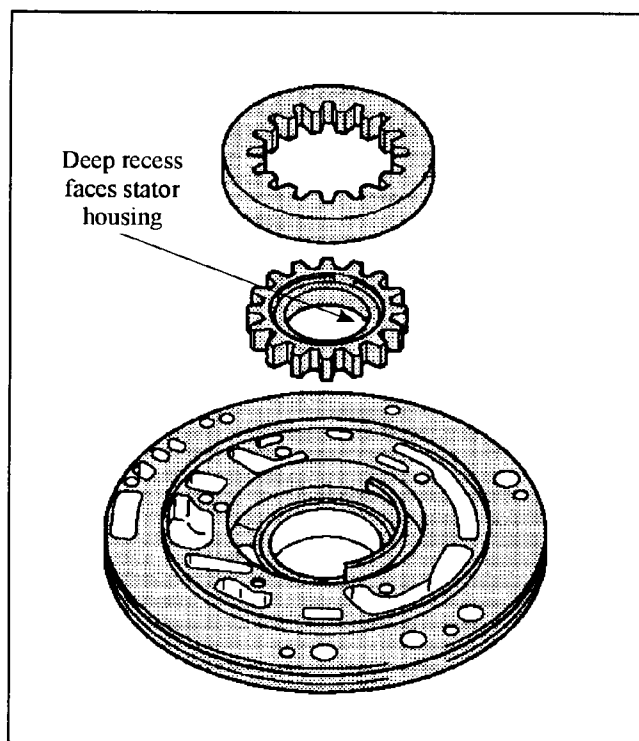

Figure 122
1. Set pump body on a flat work surface insert the pump gears in the body. The large gear will have a dot facing you when the gear is installed correctly. The smaller gear when installed correctly will have the deeper recess facing the stator housing (See Figure 122).